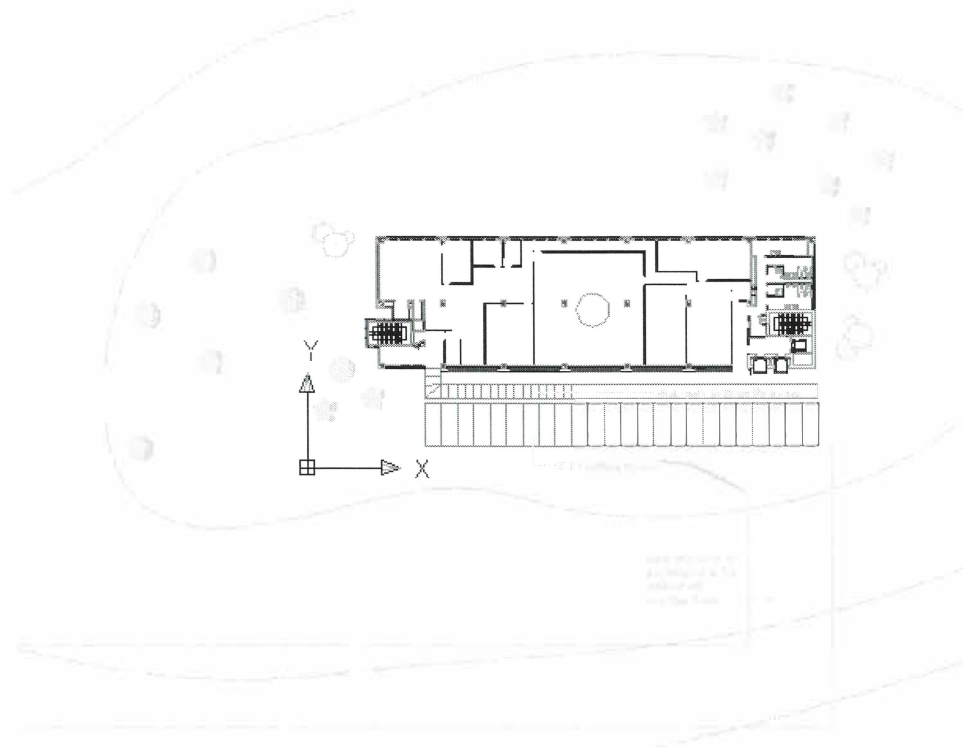

Figure 11-43
In this task, you will move a reference file to a new location, clip a DWF file, open a reference file and make a change to that drawing, close and reload it, and detach and unload it. The completed drawing is shown in Figure 11-43.
3. In the drawing window, select **Factory Site-M.dwf** (outer rectangle), right-click and select **DWF Clip....** Press <Enter> to accept the **New boundary** option and create a new rectangular boundary close to the landscape elements, building, and road, similar to the area shown previously in Figure 11-43.